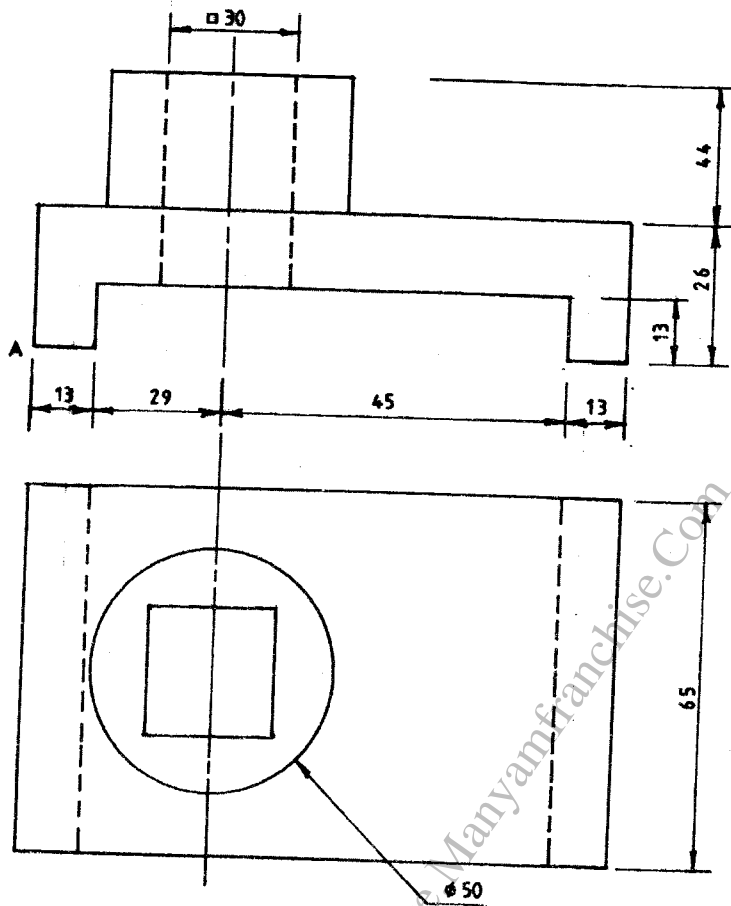

Figure 3
4. Figure 3 shows the plan and elevation of a machine block drawn in 1st angle projection. Draw an isometric view of the block with corner A as the lowest point. (15 marks)